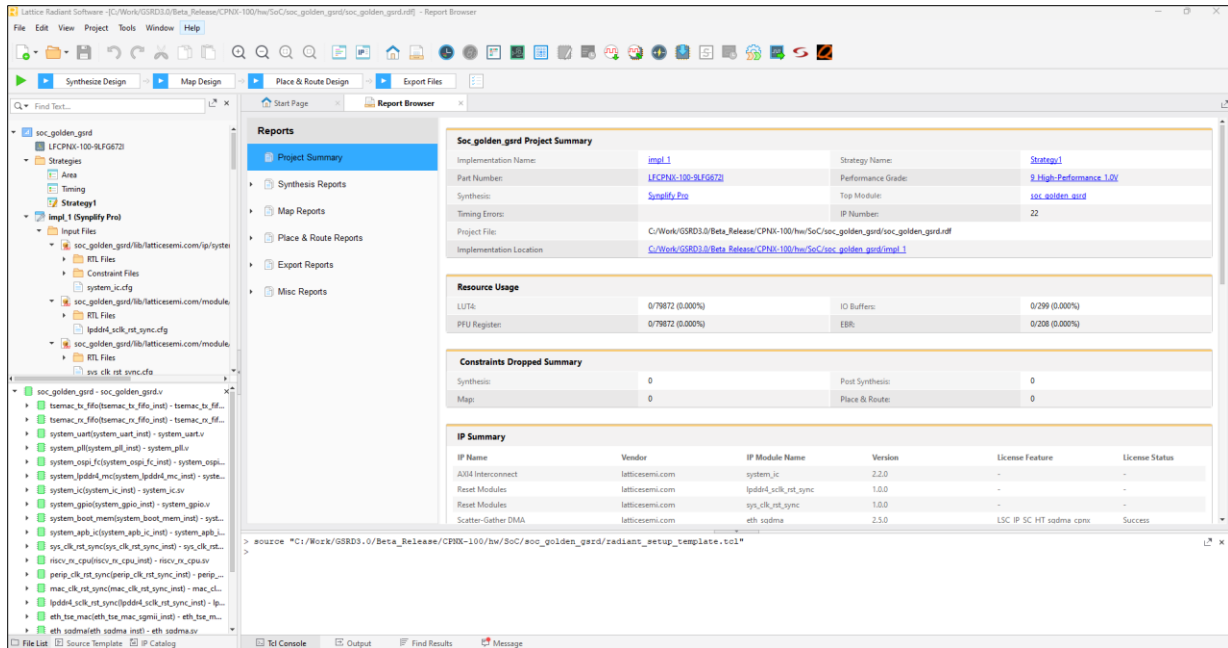

Figure 7.12. Lattice Radiant Window
- The Radiant window of your project is launched as shown in Figure 7.12.